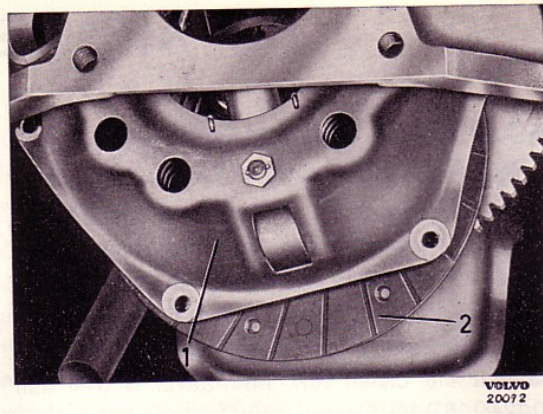

Fig. 10. Removing the clutch
7. On removing the six bolts securing the clutch to the flywheel, they should be slackened crosswise a couple of turns at a time prevent warping. Hold up the clutch so that it does not fall to the floor. The clutch and clutch plate can now be removed downwards, see Fig. 10.